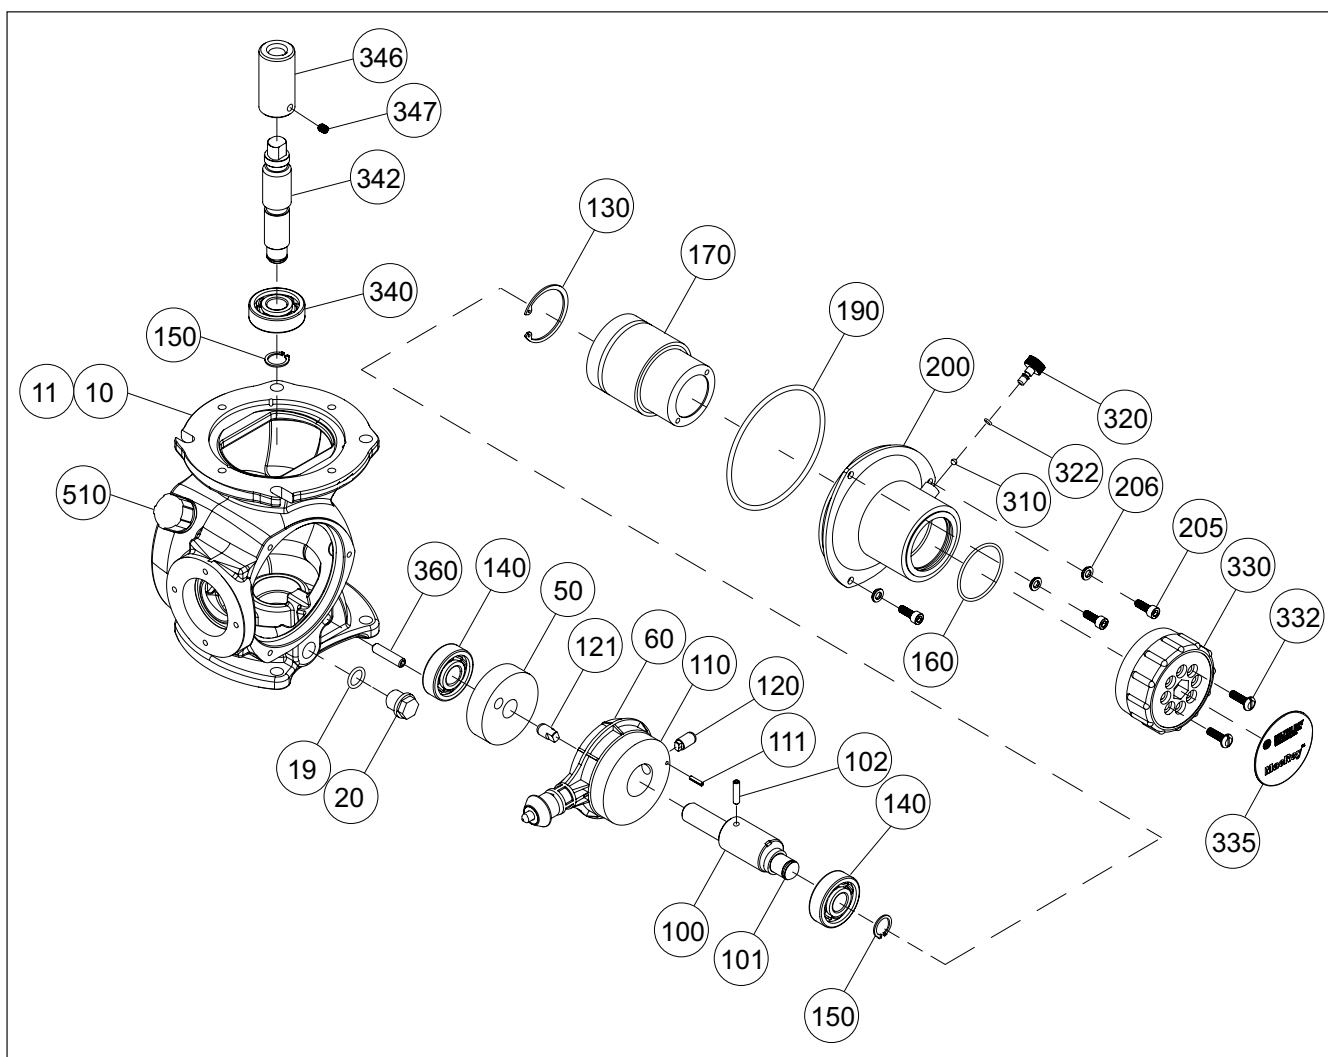

Figure 6. Drive Assembly (10227280007)
Visual Check of Seal Integrity of Mechanical Assembly, Figure 6.
1. Motor flange: If leaking, replace motor flange sealing gasket (Item 11 in Figure 6).
2. Stroke adjustment knob: If leaking, replace stroke adjustment seal (Item 160 in Figure 6).